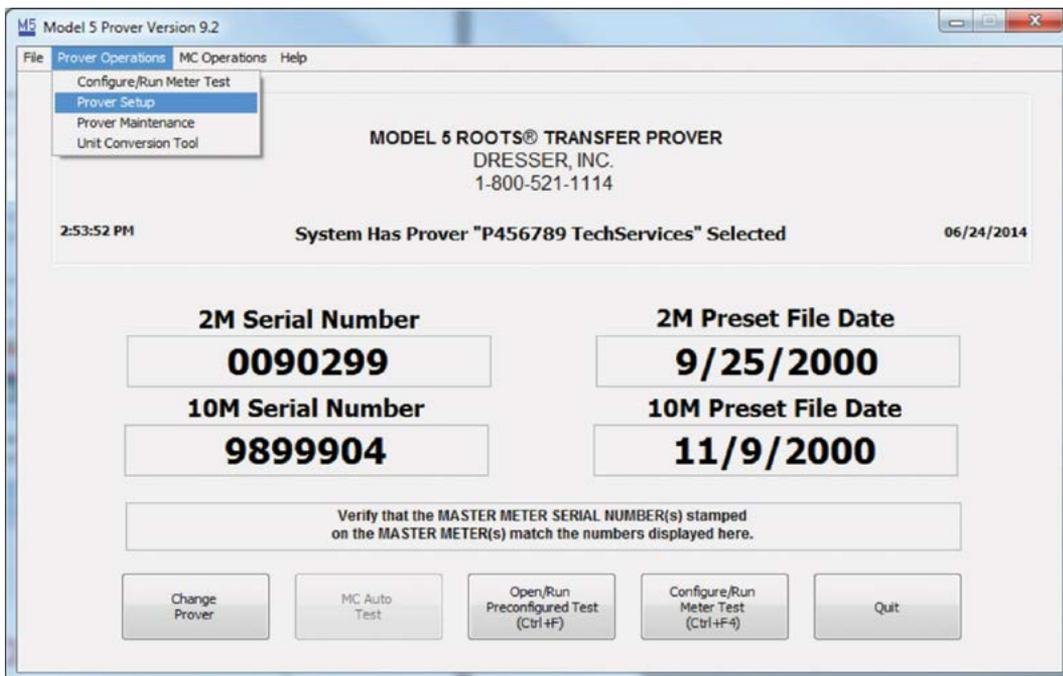

Figure 68: Prover Main Screen
1. On the initial start up screen, Select "Prover Operations" and Prover Set up" as shown in **Figure 68**.